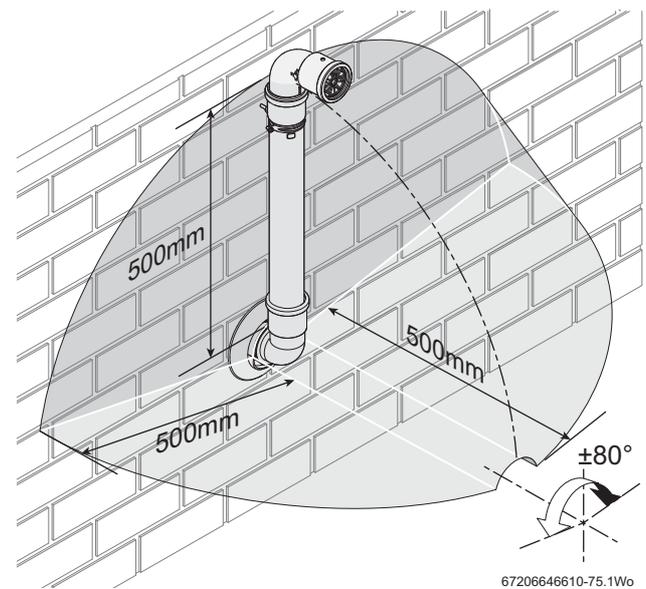

Fig. 17 Terminal exclusion zone
▶ Do not terminate the plume management inside the shaded area shown in figure 17